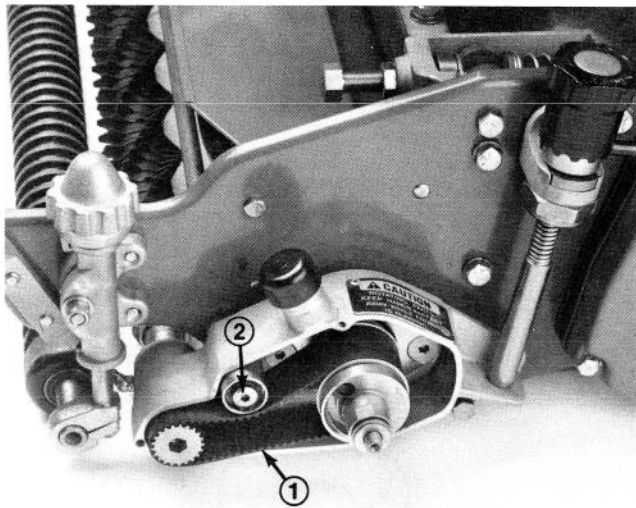

Figure 10
D. Position the toothed belt over the drive pulley (that was removed from the clutch in step 10). While holding the belt on the drive pulley, simultaneously slide the drive pulley back into place on the clutch adapter and position the belt around the driven pulley and under the backside idler (Fig. 10).
- 2. Belleville washers (2)
F. Check the tension on the drive belt by depressing it at the midpoint between the drive pulley and the driven pulley (Fig. 10). A force of 5 to 10 lbs. should be required to depress the midpoint of the belt 1/4 inch. To adjust tension, loosen the backside idler pulley pivot allen head bolt, pivot the idler to achieve the